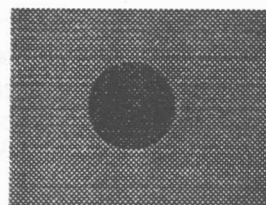

Figure 3: Typical 3 micron finish at 200x
Select the appropriate adapter for the fiber optic connector to be inspected and attach the connector to the adapter (see figure 3). Insert the adapter (1) by firmly pushing it into the adapter-ring (2) until it clicks-in and is seated against the adapter-ring face.